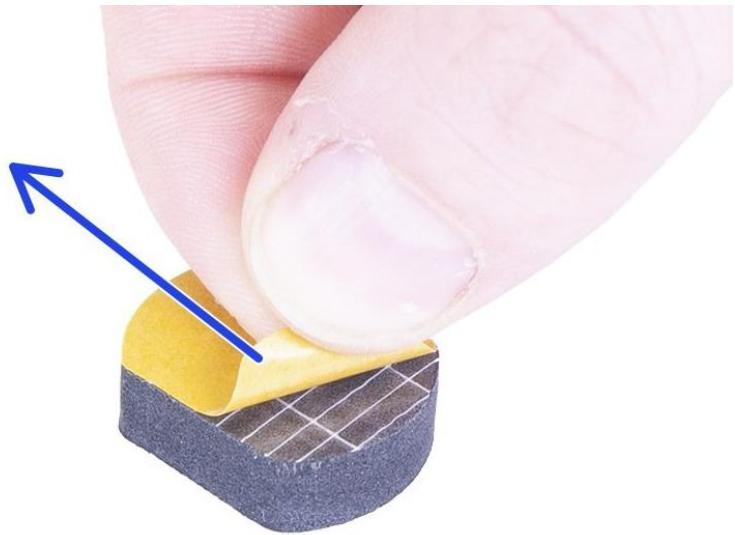

Figure 5.1.2
**A:** Remove the tape of the foam pad as shown in Figure 5.1.2.